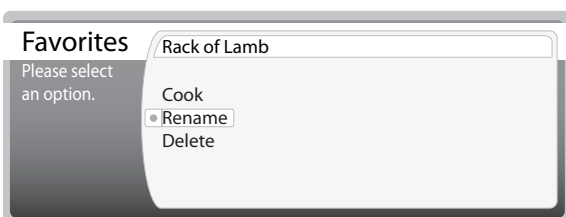

Figure 2.11: Rename a Dish (in Favorites)
3. Use the inner CookWheel knob to select "Rename" (Figure 2.11).
3. Use the inner CookWheel knob to select Delete (Figure 2.11).